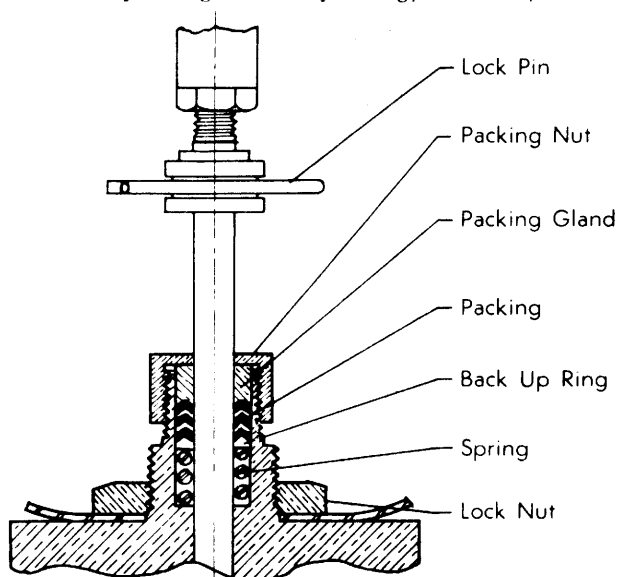

Fig. 2
Valve stem packing nut should be kept only finger tight. If valve stem packing must be replaced follow steps below. (See Fig. 2).
- (1) Remove lock pin (Fig. 2). (Do not disturb lock nut connecting regulator stem to connector).
- (2) Remove lock nut (Fig. 2) and lift regulator frame off valve body.
- (3) Remove valve from line.
- (4) To install valve, reverse the above operations.